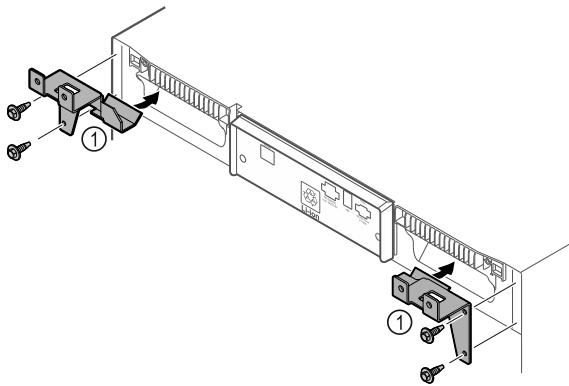

Fig. 49
- ▶ Assemble the retaining parts Fig. 49 (1) with the self-tapping screws on the appliance.